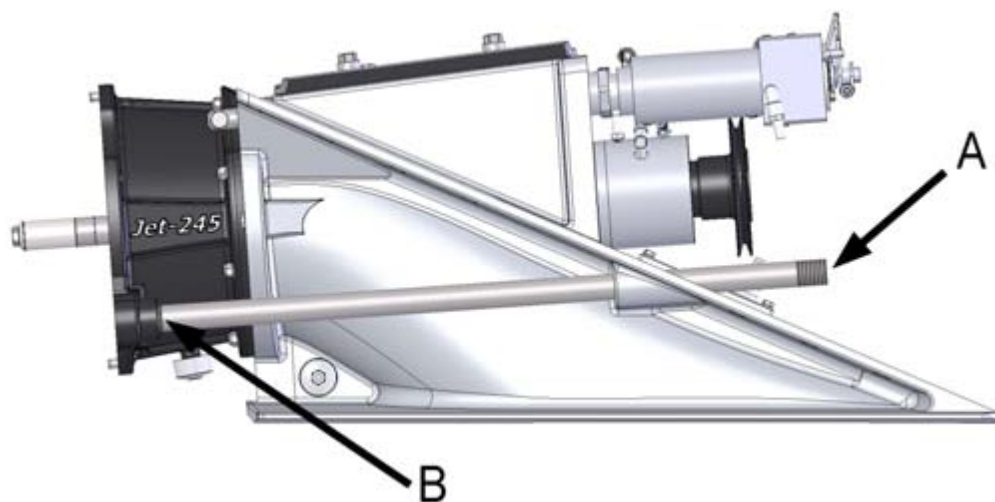

Figure 51. Raw water line
1. Open the connection to the raw water line at the pipe end on the engine room side (figure 51, point A).
2. Screw the raw water pipe to disconnect it from the rear end (figure 51, point B). However, you can leave it attached to the frame.